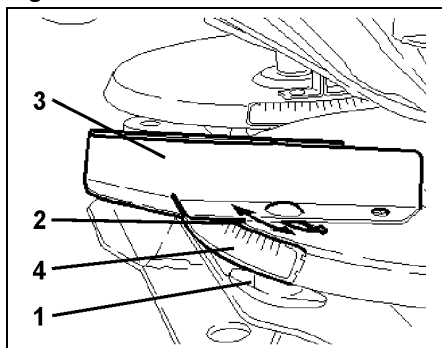

Fig. 39
- Swivel read off edge (Fig. 39/2) of the short vane (Fig. 39/3) onto figure "8" of the scale.
- **Tighten thumb nut (Fig. 39/1) firmly (without any tool).**
- Slacken thumb nut (Fig. 39/1)
- Swivel read off edge (Fig. 39/2) of the long spreading vane (Fig. 39/3) onto figure "42" of the scale
**Tighten thumb nut (Fig. 39/1) firmly